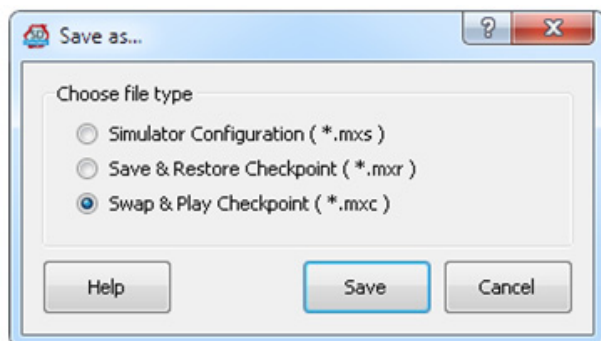

Figure 4-13 Save As dialog for Checkpoints
1. Click **Save** or select **File > Save** or **File > Save As** from the menu. In the Save as... dialog (Figure 4-13), select "Swap & Play Checkpoint (*.mxc)".